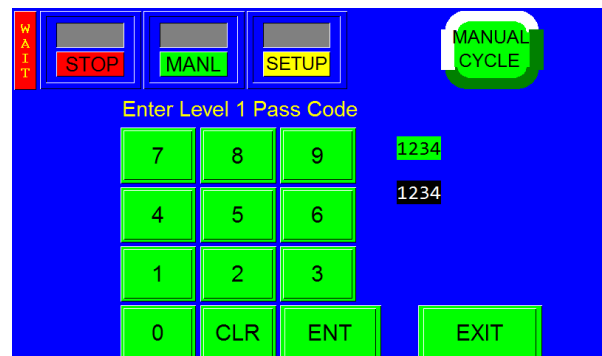

Figure 3 - 37
- Level 2: This level pass code, when the pass code function is enabled, prevents the operator from accessing settings screens that affect the operation of the equipment. See Figure 3 - 38.